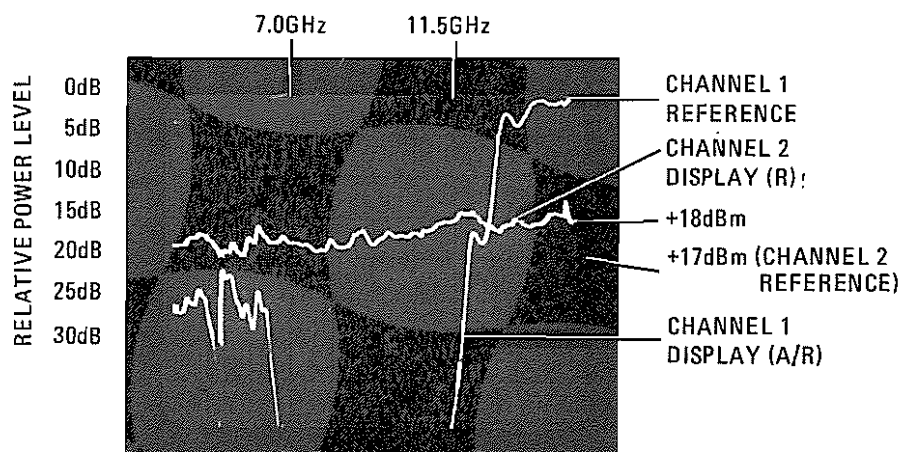

Figure 5-12. Swept Amplitude Display of Leveled Power and Harmonics
- g. Adjust 8755B CHANNEL 2 VERNIER to position lowest point of trace at center horizontal graticule line (see Figure 5-12). Set CW MARKER pointer to 11.5 GHz.
- j. The 8755B is now calibrated so that CHANNEL 1 displays relative level of harmonics for fundamental signals from 5.9 GHz to 11.5 GHz (cutoff of high pass filter) referenced to top horizontal graticule with a scale of 5 dB per division; CHANNEL 2 displays the fundamental signal level referenced to +17 dBm at center horizontal graticule line with a scale of 1 dB per division. (See Figure 5-12.)